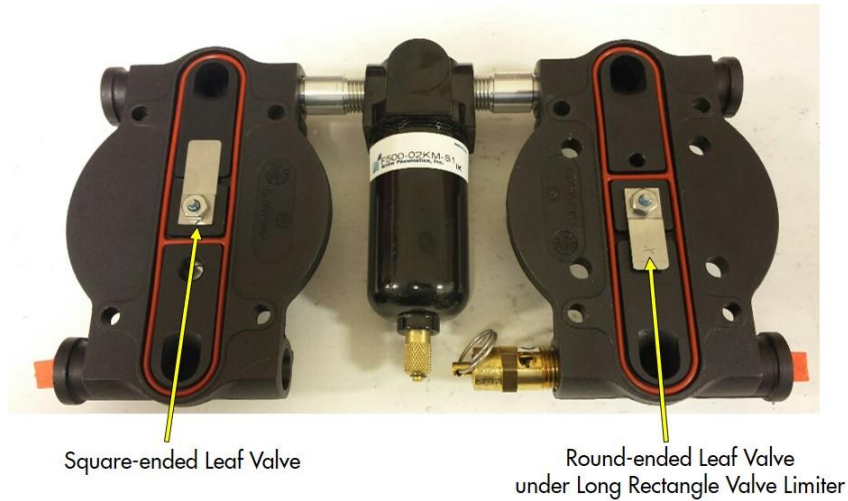
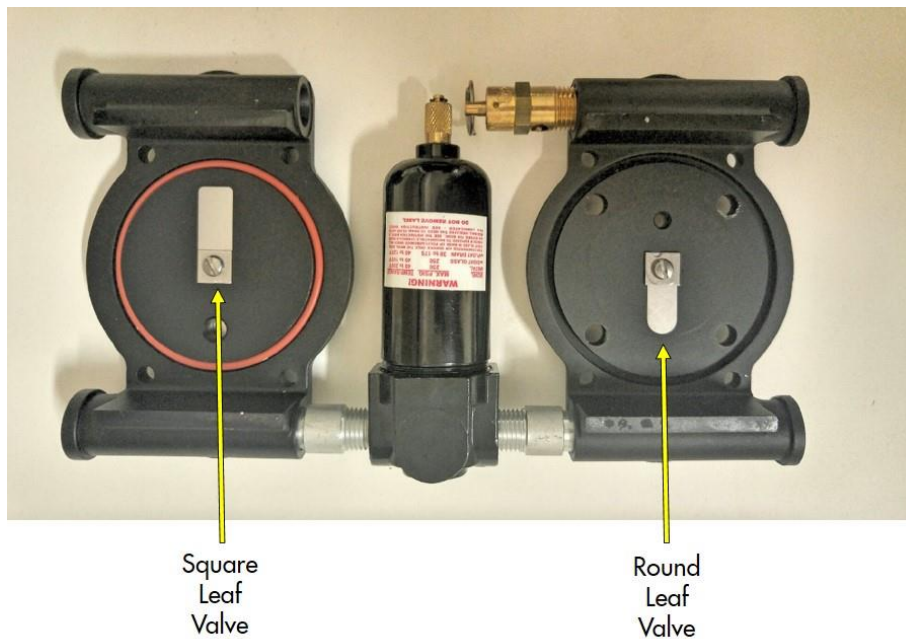

Fig. 2 Top of Valve Plate
Fig. 3 Bottom of Valve Plate
6. Remove the valve plate with the valve and note the position of the valve on intake or exhaust sides of plate (mark them if necessary); remove valve. Also, note the direction of the leaf valves. (Fig. 2; Fig. 3)